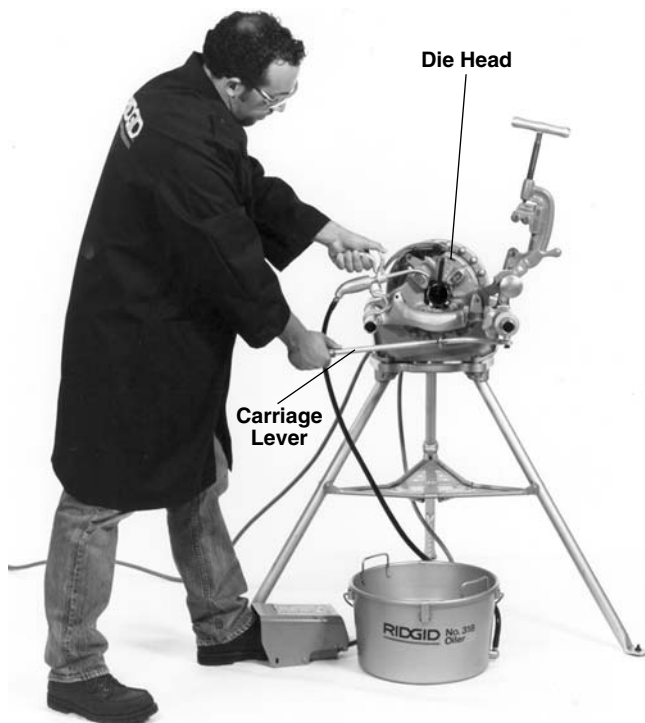

Figure 11 – Threading Pipe with Quick or Self-Opening Die Head
4. Assume the correct operating posture (*Figure 11*).
1. Check to insure the cutter and reamer are to the rear of the carriage (*Figure 11*).